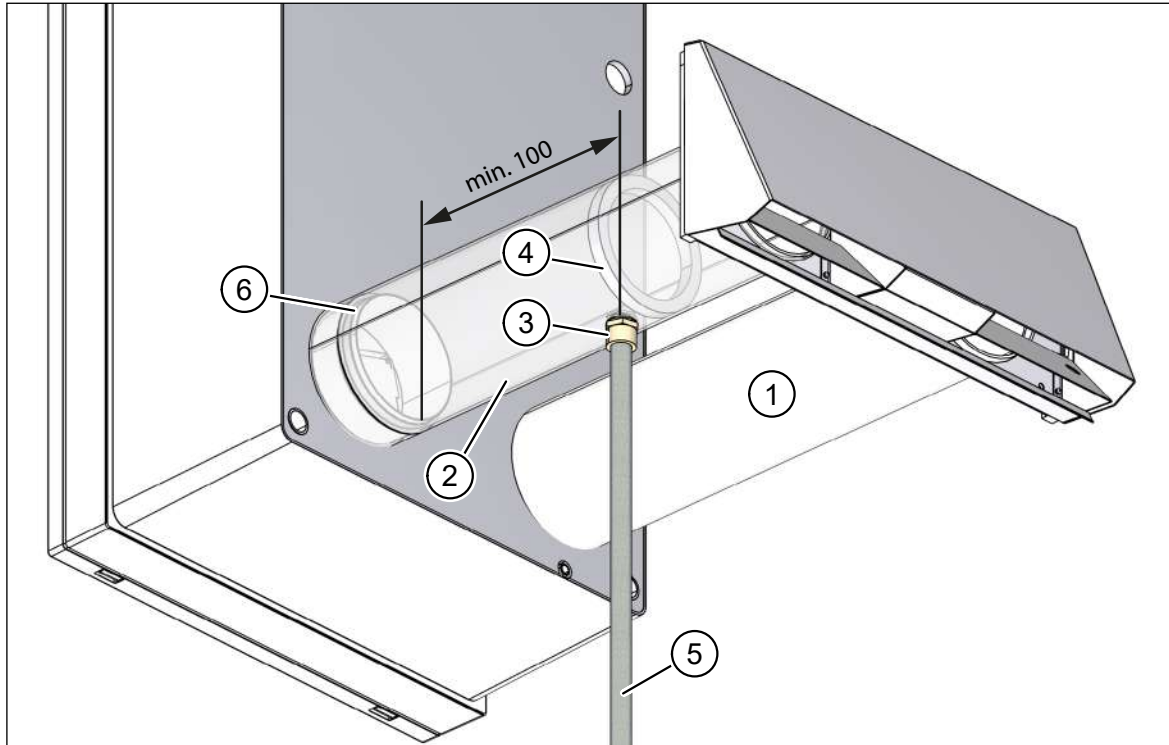

Fig. 63: Condensate drain on the exhaust air pipe, dimension in millimetres
- Outdoor air pipe, DN 100, 0.5 m (item 1 in Fig. 63)
- Exhaust air pipe, DN 100, 0.5 m (item 2 in Fig. 63), with 1/2" male thread connection (item 3 in Fig. 63) and barrier (item 4 in Fig. 63) for retaining the condensate.
- In cold regions, protect the condensate drain pipe (item 5 in Fig. 63) against frost, e.g. by running it behind the facade insulation.
- Maintain a minimum gap of 100 mm between condensate drain pipe (item 5 in Fig. 63) and exhaust air connector (item 6 in Fig. 63).